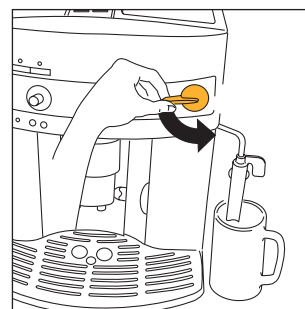
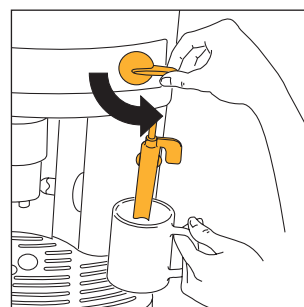
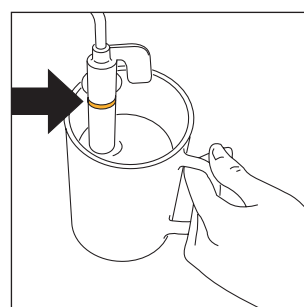

Fig.5
Fig. 23
Fig. 24
3. **IMMEDIATELY AFTER, WITHIN A MAXIMUM OF 30 SECONDS**, turn the steam knob anticlockwise until it stops (Fig.5) (it is normal for the machine to make some noise).
- Turn the steam knob half a turn in anticlockwise until it stops (Fig. 5): hot water will come out of the milk frother and start to fill the container underneath.
- **Immediately after, within a maximum of two minutes** (otherwise the machine automatically returns to the coffee function), dip the milk frother into the container of milk (Fig. 23), making sure not to immerse the line in relief on the milk frother (indicated by the arrow in Fig. 24) and turn the steam knob half a turn anticlockwise until it stops (Fig. 5). (Be careful, to avoid being scalded). The steam released will make the milk froth and increase in volume. To make creamier foam, dip the milk frother into the milk and rotate the container with slow movements from the bottom to the top (you are recommended to limit steam delivery to no more than two minutes at a time).
- Release a little steam for a few seconds by turning the steam knob anticlockwise until it stops (Fig. 5). With this operation, the steam spout discharges any milk that may be left inside. **IMPORTANT:** For reasons of hygiene, this operation should always be performed, so as to prevent the milk from remaining in the circuits inside the milk frother.